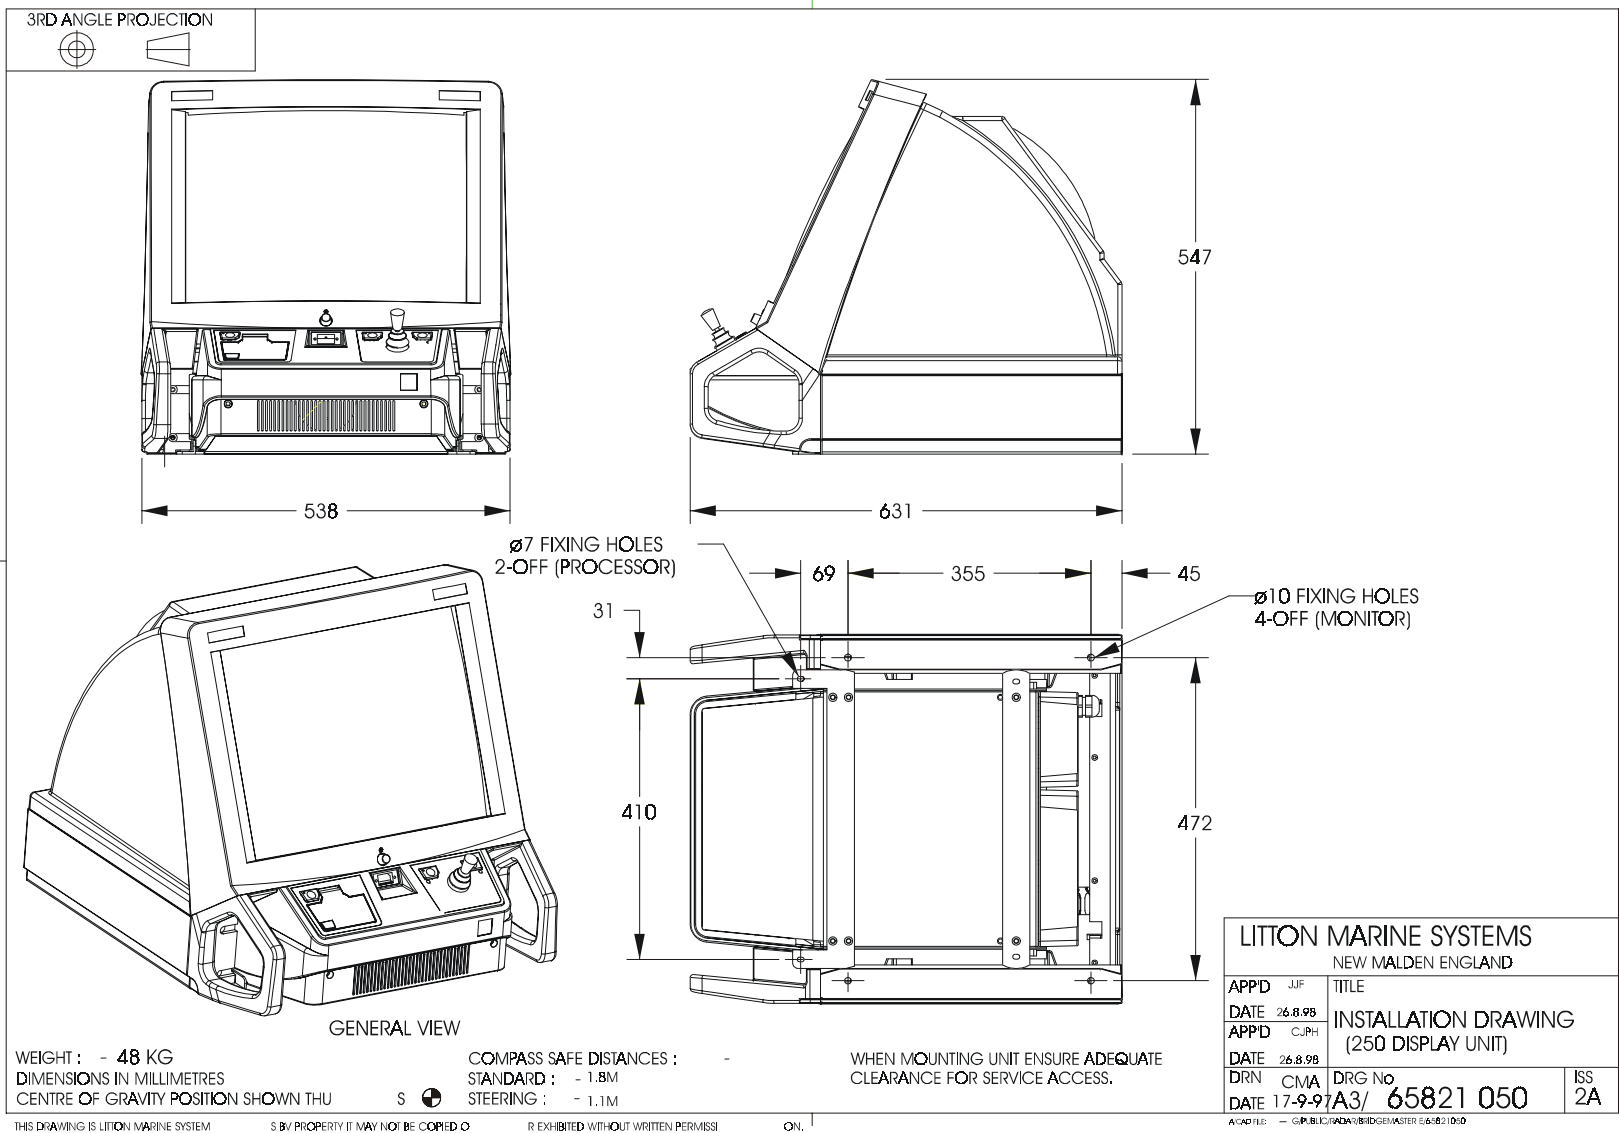

Figure 3.2 - 250 Display Unit Installation Drawing
- Refer to Figures 3.2 for installing a 250 Display Unit.